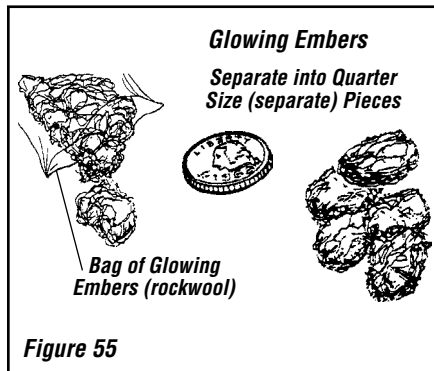
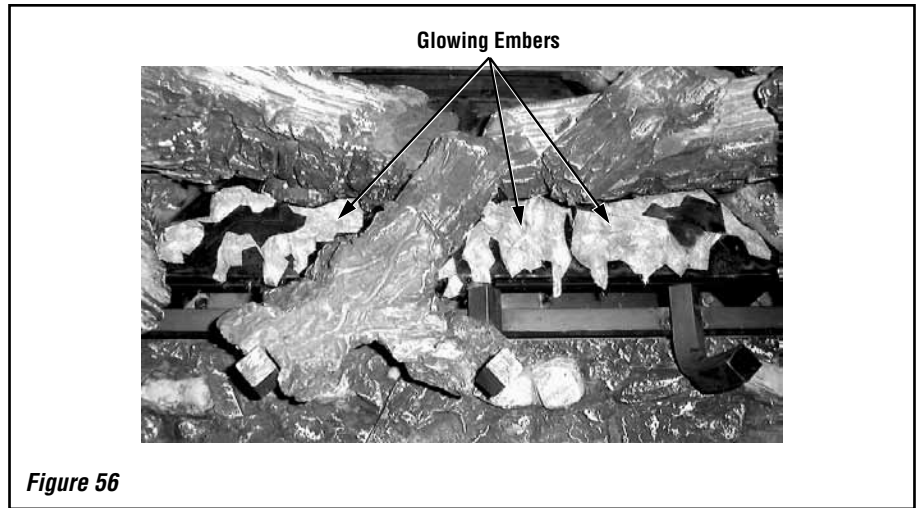

Figure 55
Figure 56
**Step 3.** Separate the Glowing Ember (Rockwool) into pieces about the size of a quarter (Figure 55). Keep the pieces fluffed up, not matted. Distribute these pieces over the front surface of the burner, as shown in Figure 56. Do not use more than is necessary. When properly positioned, the Glowing Embers will cover approximately 65% of the front burner and with no appreciable gaps or openings. Ensure that the main burner ports remain uncovered by the ember material.
Position the individual logs as shown below. Logs should be placed in the order shown. Position the center log on the burner first, then place the glowing embers as shown in **Figure 56**. Place the rear log, both the right and left, and then the smaller left and right top logs. All logs that have notches to fit over the grate tines should be positioned with these notches directly against the grate. All top logs that rest on lower logs, do so over flattened mounting faces in the bottom logs.